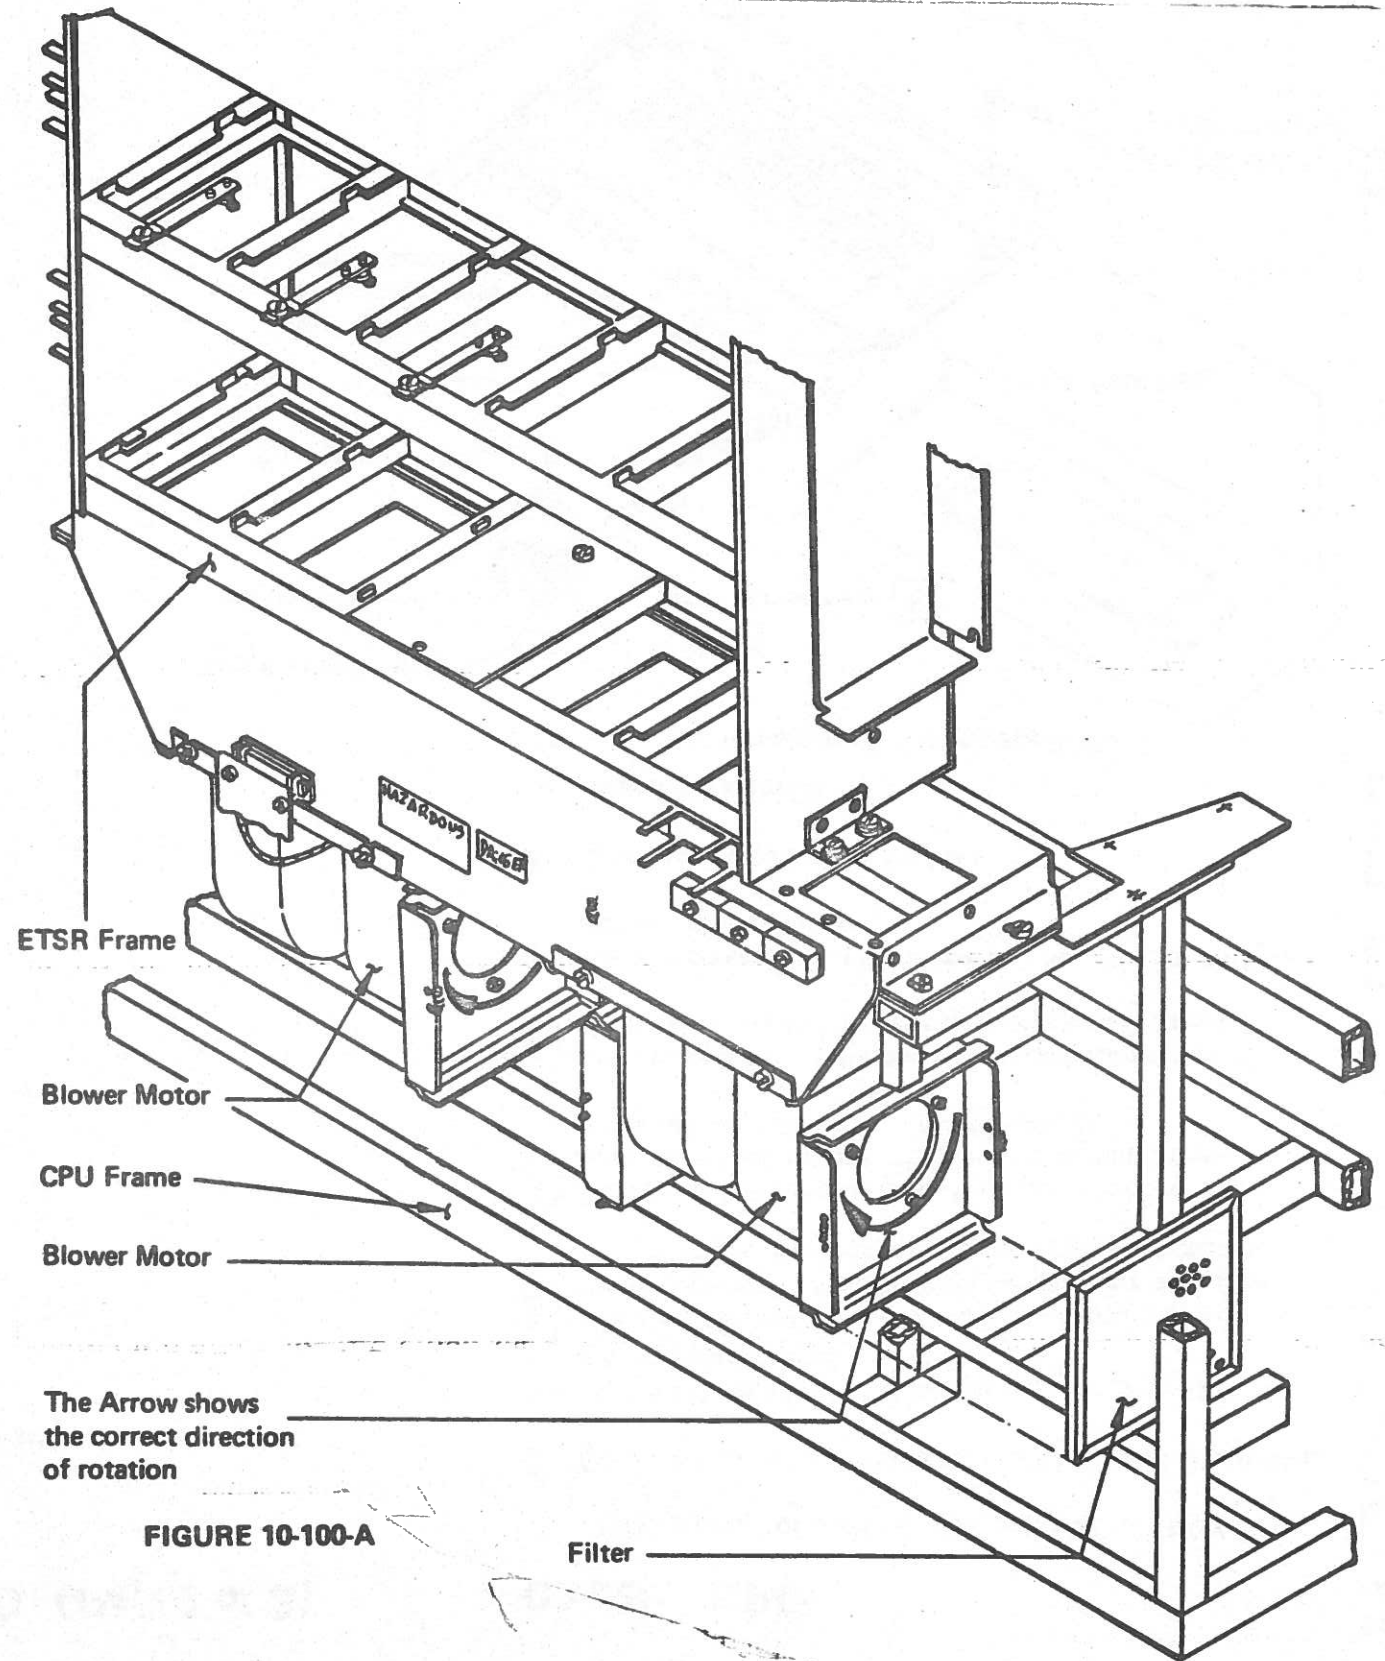

FIGURE 10-100-A
**Important:** If your machine has EC 362 720 not installed, the direction of the blowers below the ETSR frame must be checked visually by removing the filters. See figure 10-100-A. If direction of rotation is wrong, switch off the machine and perform the following: